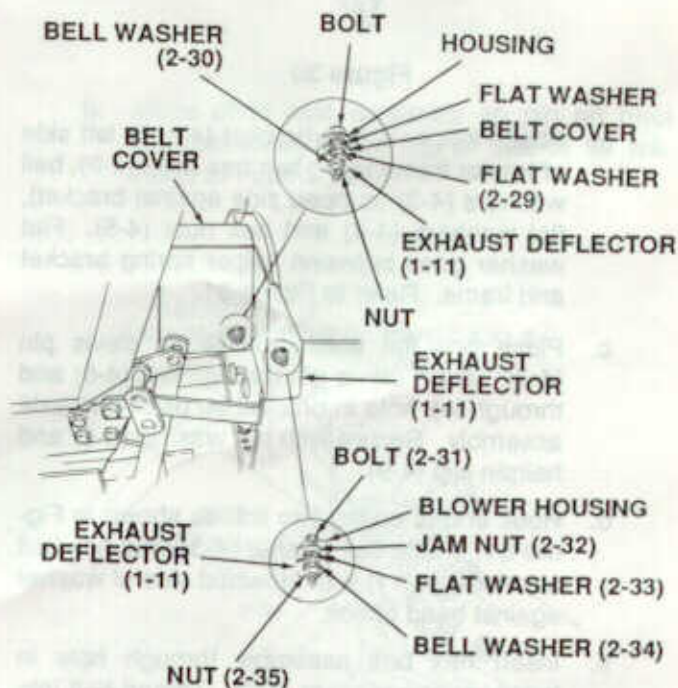

Figure 29
- b. Refer to Figure 29 and install flat washer (previously removed) on bolt between housing and belt cover.
- d. Refer to Figure 29 and install hex bolt (2-31) through blower housing and install hex jam nut (2-32) and tighten.